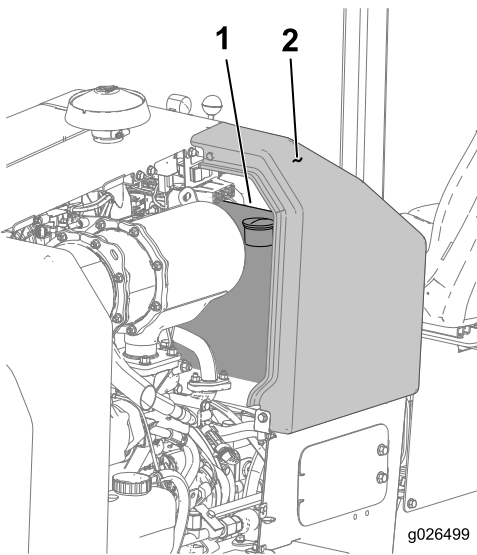

Figure 44
2. Remove the upper left panel of the console (Figure 44).